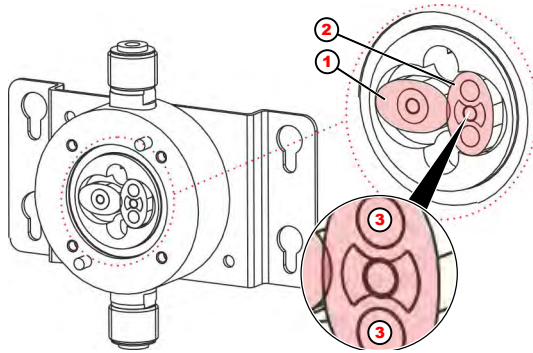

Fig. 6: Ovalradzähler
The oval gear wheels must be inserted in such a way that they are offset exactly 90° to each other (Fig. 6, pos. 1 + pos. 2) .
1. ➤ Install oval gear wheels after cleaning / replacement 90° offset to each other (Fig. 6, pos. 1 + pos. 2) .
The oval gear wheel with the welded magnets (Fig. 6, pos. 2) must be positioned under the sensor in the cover.